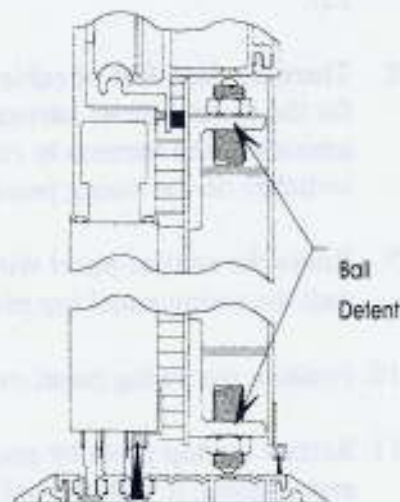

Figure 16
17. Locate the point where the score marks intersect the first centering groove on the bottom of the header (the only groove on the track.) Drill a 1/4 inch hole at each location and countersink the holes to 3/8 inch x 82 degrees (See Figure 16).